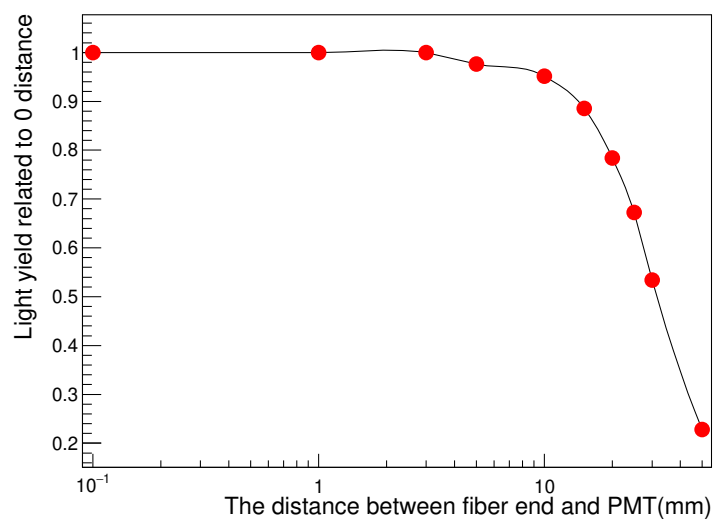

Figure 2: The relative light collection ratio as a function of fiber-PMT distance.
**Test result:** Refer to Table 1 and Fig.2.